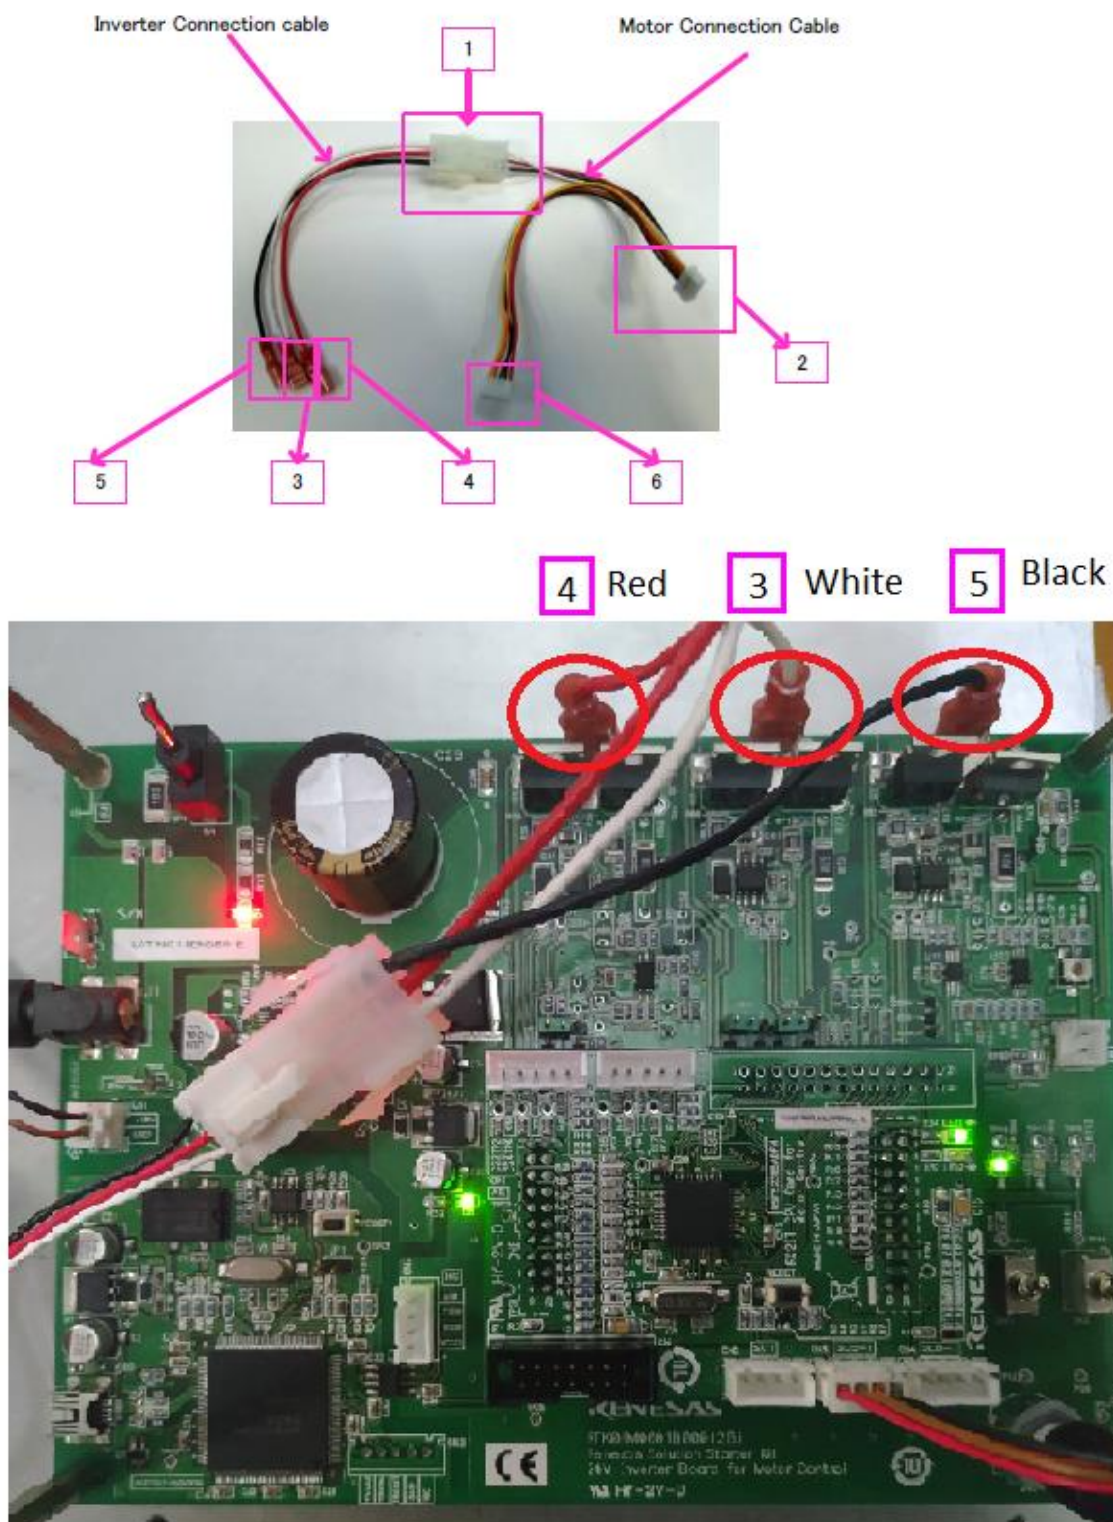

Figure 6 Motor Connections to 24V inverter board
- Figure 6 shows the BLDC motor connection to 24V inverter board